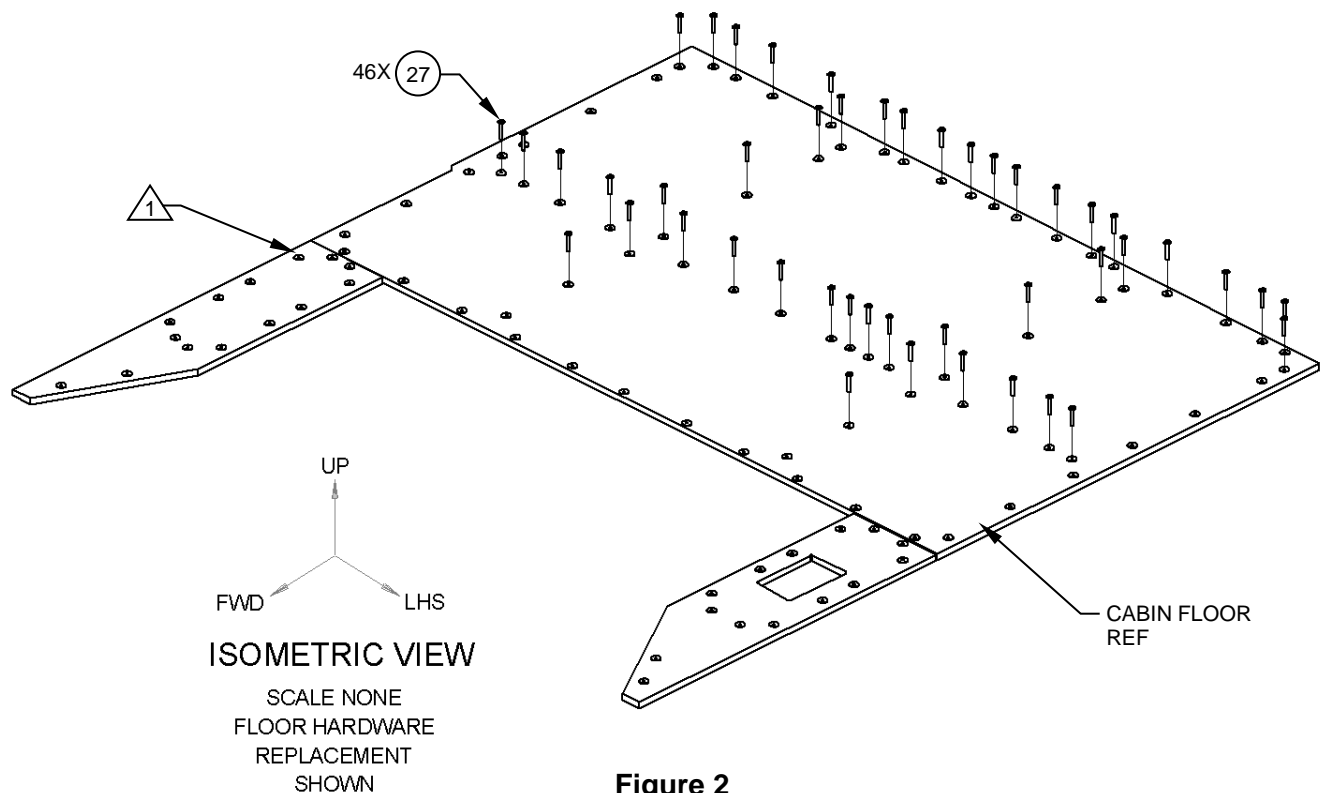

Figure 2
5. Remove the AFT Cabin Floor Protection, Assy, (Item 2), and the RHS, FWD Panel, Assy, (Item 13) in their respective locations. Reference Figure 2.
6. Remove 46X Screw, Washer Head, (Item 27), in locations shown. Reference Figure 2.